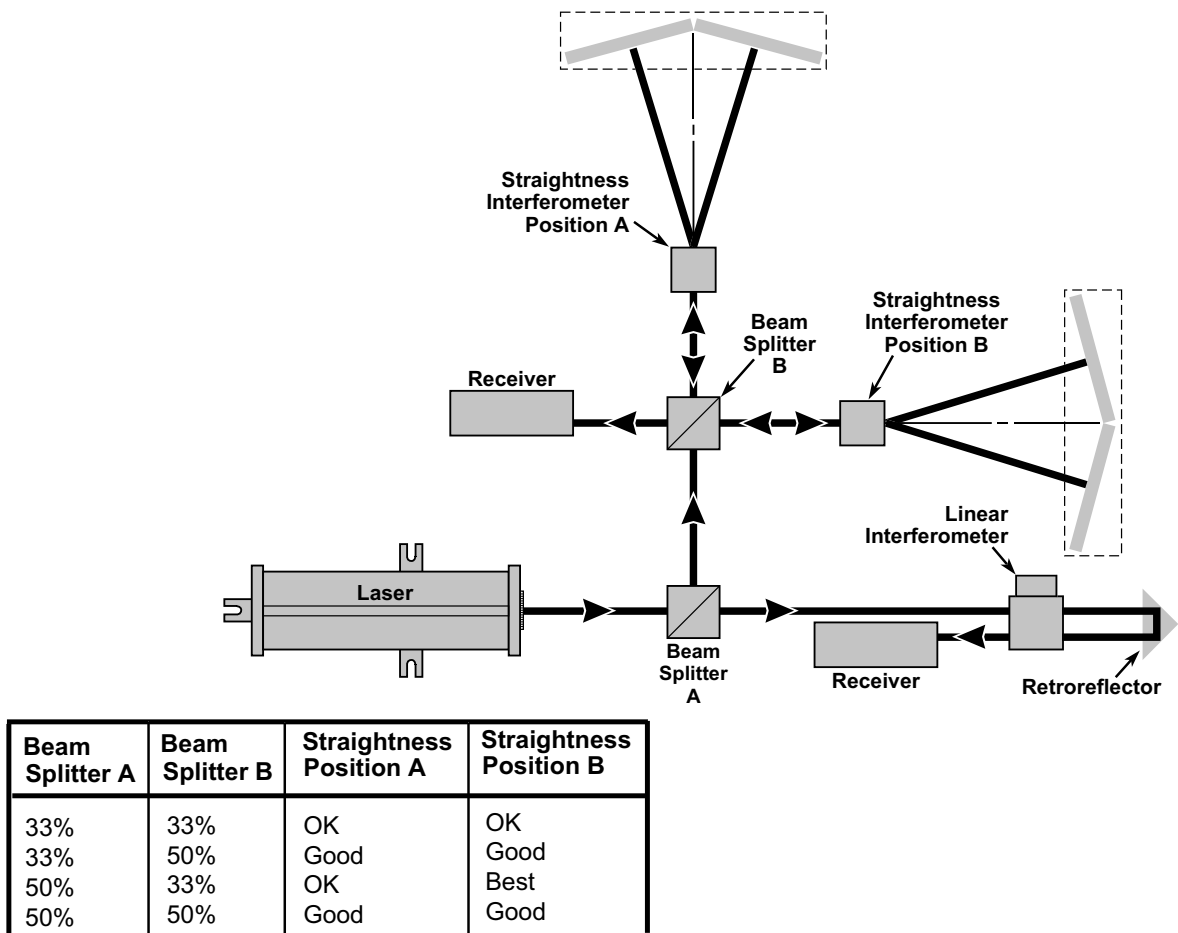

Figure 7Y-6. One linear and one straightness axis
- 3** Align the Straightness Reflector so that its mirror axis (see Figure 7Y-2) is parallel to the laser beam and axis of travel. This mirror axis forms the optical straight-edge (analogous to traditional straight-edge).